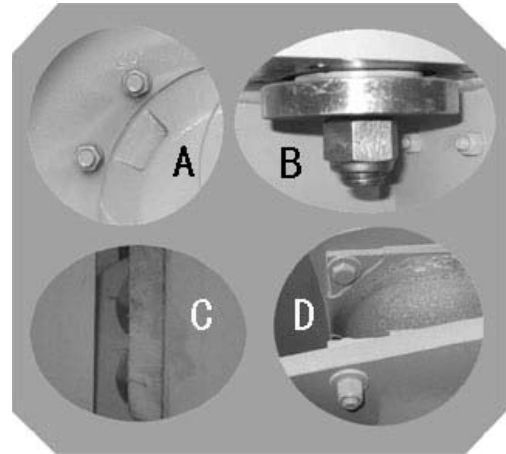

Figure 3-8
3.4.1.7 Check and tighten the screws and nuts (figure 3-8)